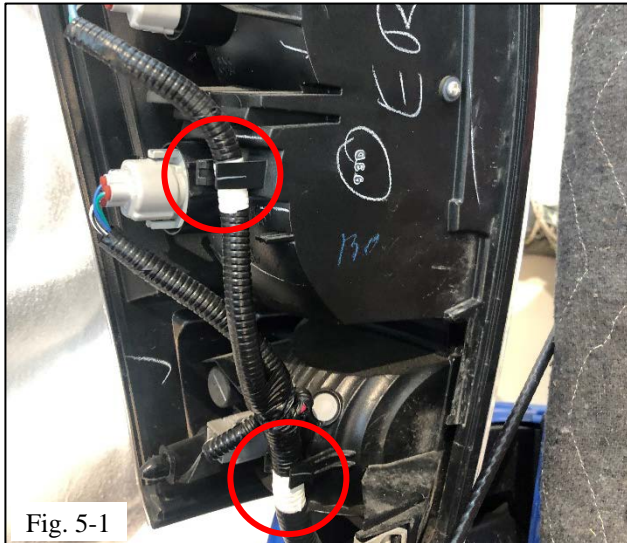

Fig. 5-1
- (a) Install the rear combination lamp wire harness into the guide tabs [if the wire harness has come out of the tabs] (Fig. 5-1).